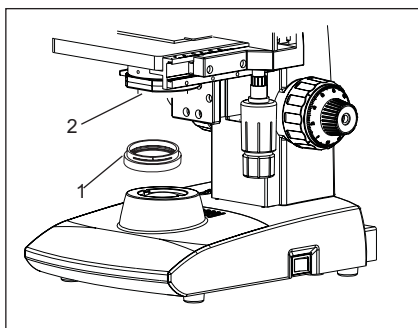

Fig. 25
- Fit the daylight filter (1) into the bottom of the condenser (2) until it clicks into place. See figure 25.